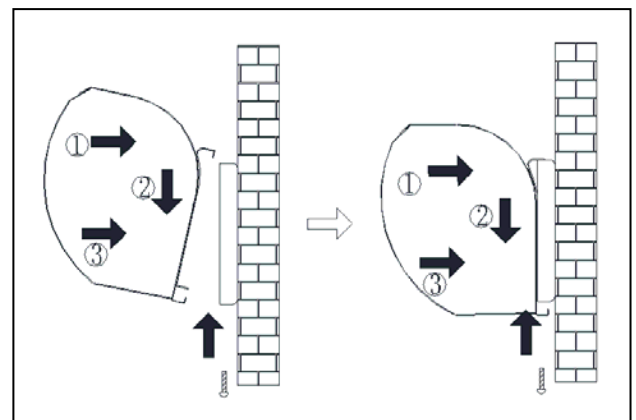

FIG. 3
4. Set the main body onto the upper end of the mounting plate and clamp it as shown. (FIG. 3).